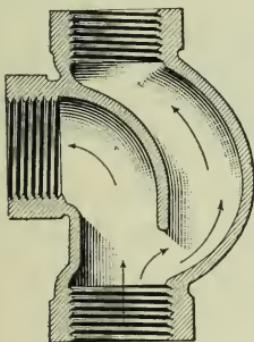
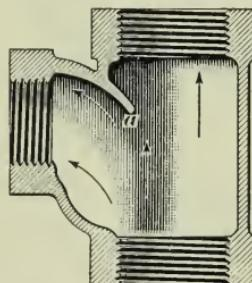

FIG. 20
FIG. 21
**31.** Fig. 20 shows the **O S fitting**. It is used to allow the branch to be favored more than the run, as in riser pipes in steam heating, when a better flow is required at the branch to a radiator on one floor than is required to supply the
**32.** Fig. 21 shows a distributing fitting similar to Fig 20. It has a large body at the branch; the back of the fitting is straight on the run and the deflector  $\alpha$  is short. This fitting is used in horizontal runs of pipe to favor the branch.